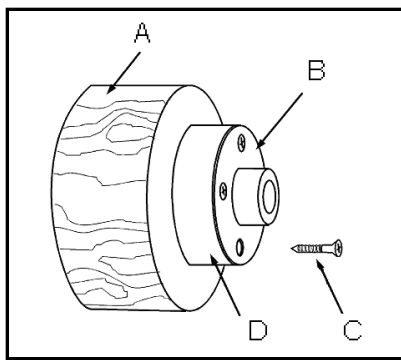

Fig 14
Mount the workpiece (A, Fig 14) directly to the face plate using 4 wood screws (C) from the back. Be careful to use screws short enough not to interfere with the cutting process but long enough to hold the workpiece securely to the face plate.